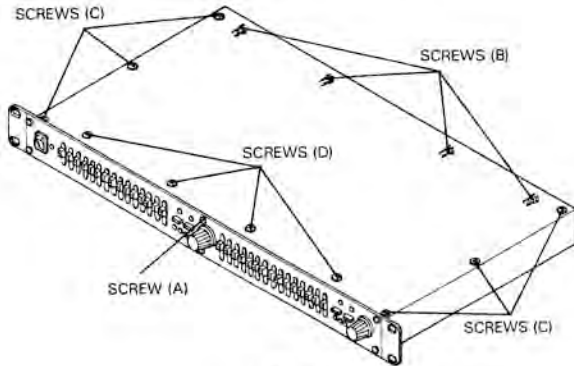

Fig. 1
- (a) Remove 1 socket screw (A). (Fig.1)
- (b) Remove 4 screws (B). (Fig.1)
- (c) Remove 6 screws (C). (Fig.1)
- (d) Remove 4 screws (D). (Fig.1)